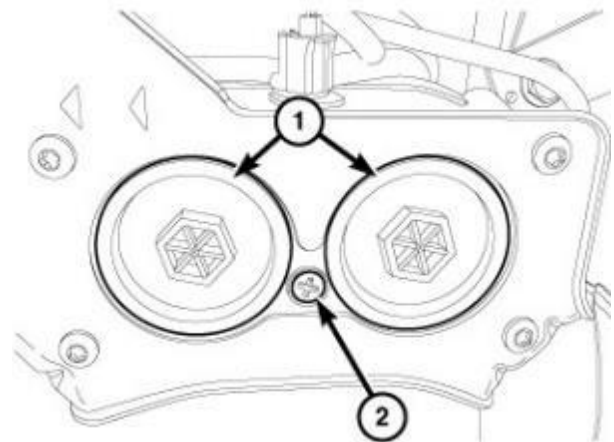

Figure 21 – Drain Plug
54. Loosen the drain plug (2) and drain the diesel fuel into a suitable container (Figure 21).
55. Securely tighten the drain plug (2).